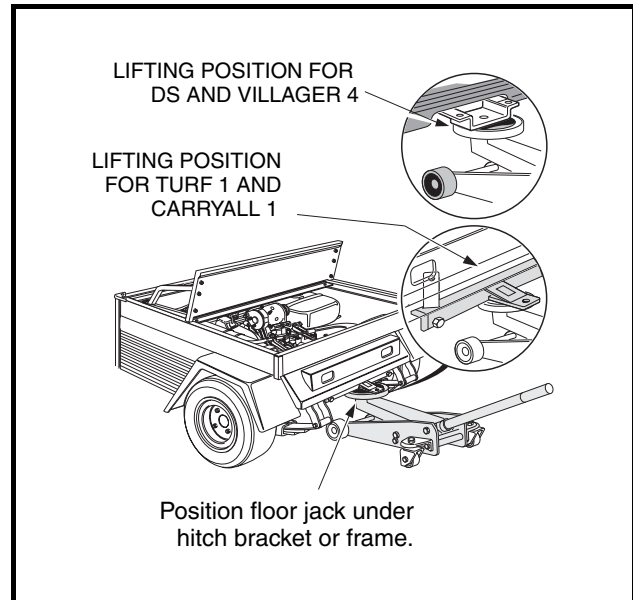

Figure 16-21 Floor Jack
7. Position a floor jack under the vehicle frame crossmember or trailer hitch mount (**Figure 16-21, Page 16-11**).